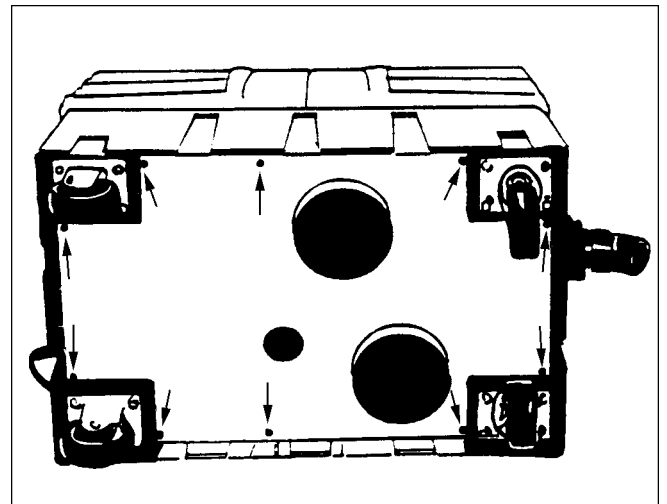

Figure 9
2. Remove the screws that hold the bottom panel to the machine. See figure 9